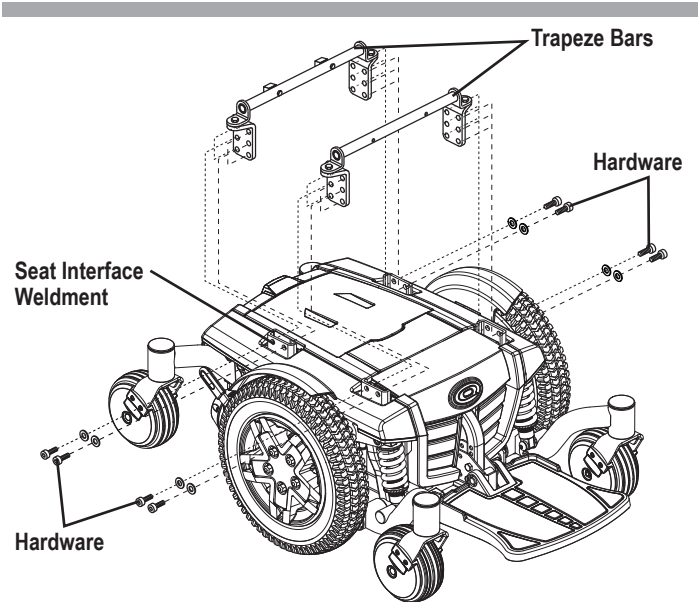

Figure 15. Seat Height/Angle Adjustment
7. Remove the hardware that attaches the trapeze bars to the seat interface weldments. **See figure 15.**